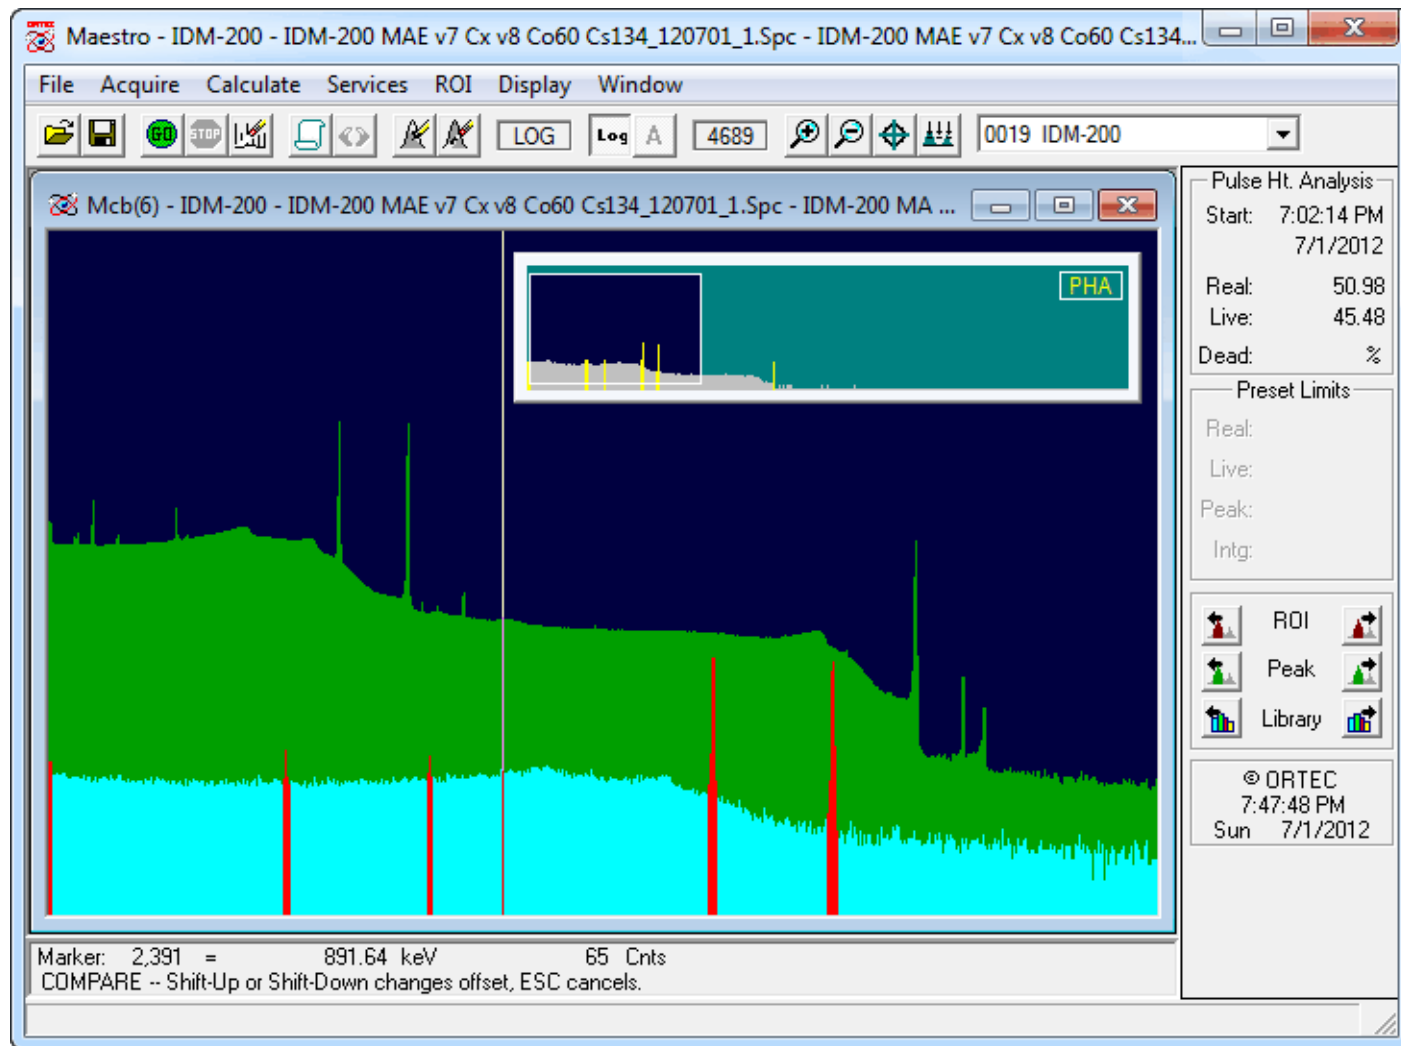
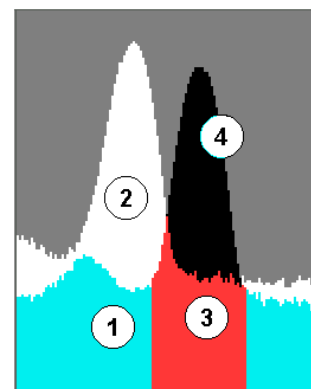

Fig. 35. Compare Mode Screen.
Fig. 36. Spectrum Colors in Compare Mode.
This function displays a spectrum from disk along with the current spectrum so the two can be visually compared. A standard file-recall dialog box opens. Once the desired spectrum file is selected, the Expanded Spectrum View shows both spectra, as illustrated in Fig. 35.
Figure 36 is a zoomed-in portion of Fig. 35. In this illustration, the starting spectrum is displayed in color (1), the Compare spectrum is shown in color (2), the starting spectrum's ROIs are marked in color (3), and the portion of the starting spectrum that exceeds the Compare spectrum is indicated by color (4). These colors — called **Fore-ground**, **Compare**, **ROI**, and **Composite**, respectively — are chosen on the **Color Preferences** dialog discussed in Section 4.6.11.2.